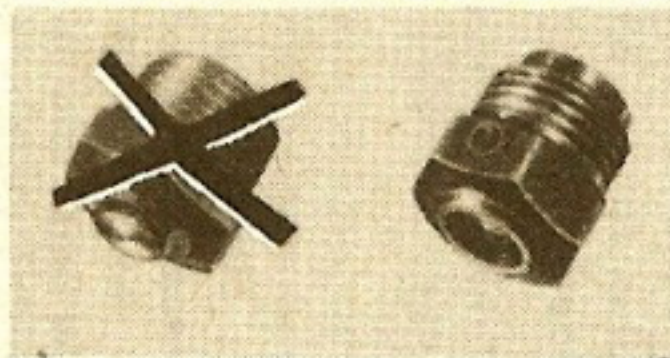

Fig. 2—X marks the old valve; at right—the new pop-off.
It gives us great pleasure to announce at this time that the new high-pressure pop-offs (Fig. 2) are ready. Requisition Valve, lubricating, pressure relief, 1500 lbs., 1/8 in. 27 NPT male, short, Fed. Stock No. 45-V-18129.
Fig. 2—Unhook the rear shock absorbers and jack up the rear end of the jeep frame (not the wheels). Leave the hanger attached to the spring while you (1) burn off the spring hanger with a cutting torch, and (2) knock out the rivets that hold it to the frame. Now, remove the spring-shackle U-bolt from the hanger.